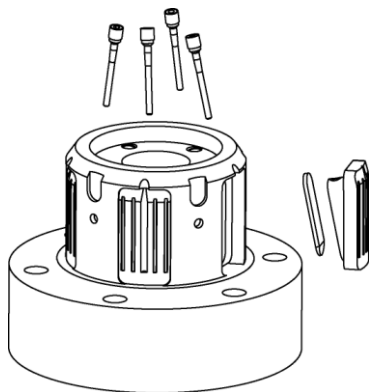

Fig. 3
5. Remove the other four guide pins and the lugs. (Fig. 3)